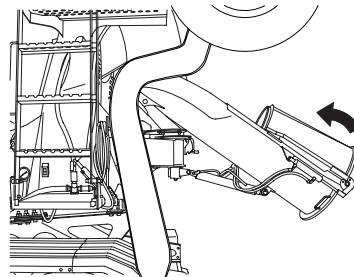

Figure 137
2. Slowly raise the chute into stored position (Figure 137).